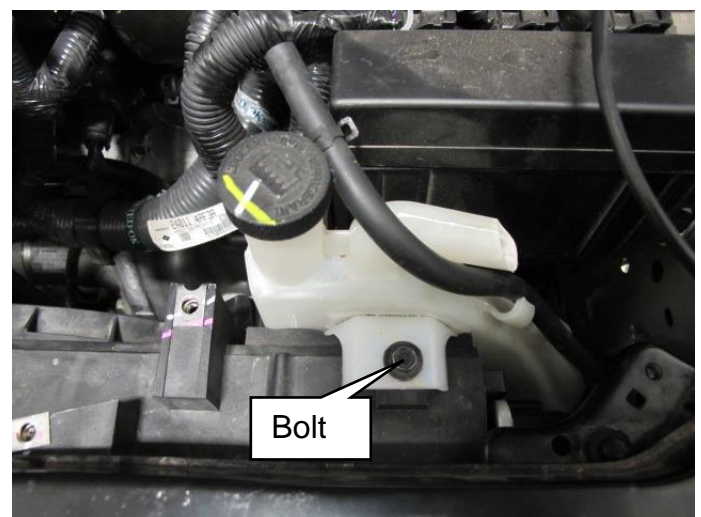

Figure 18
24. Remove reservoir tank (Refer to Figure 18).
- Remove (1) 10 mm retaining bolt.